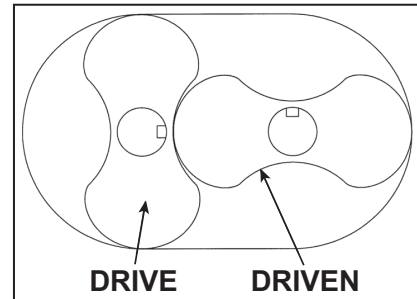

Figure 14 - Keyways
3. Place free end plate on suitable blocking with rotor side up. Stand rotors (1) into each bore with gear end shafts up and keyways facing in the direction shown in Figure 14.
4. Install the gear end plate (4) over the rotor shafts and coming to rest on top of the rotor lobes, being careful not to damage the seals. Recheck the location of the oil sight glass in relation to the drive rotor before proceeding with the assembly.